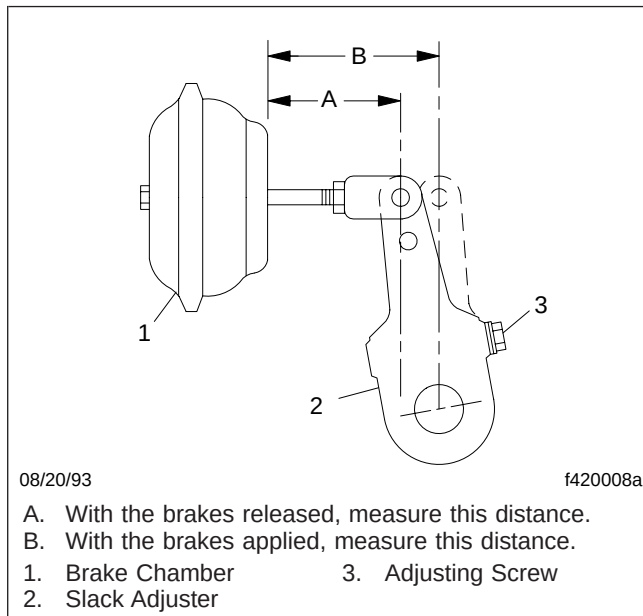

Fig. 4, Brake Adjusting, Typical Manual Slack Adjuster
- 1.1 With the brakes released, measure the distance from the face of the brake chamber to the centerline of the clevis pin (**Fig. 4**, Ref. A). Record the exact distance as measurement A.
- 1.2 Apply the service brakes and hold them on full line pressure of at least 80 psi (550 kPa). Measure the distance from the face of the brake chamber to the centerline of the clevis pin (**Fig. 4**, Ref. B). Record the exact distance measured as measurement B.
- 2.1 Wipe clean the adjusting screw hexhead. See **Fig. 4**. Position a wrench or socket over the adjusting screw hexhead.